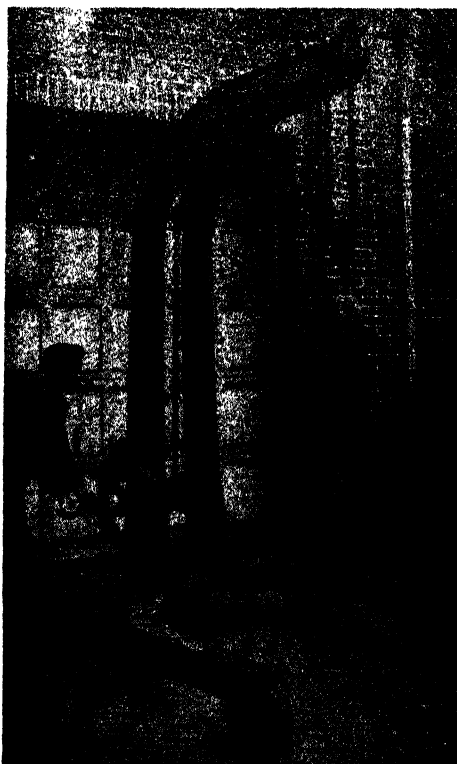

FIG. 137. PORTABLE CRANE.
1. The portable shop crane, Fig. 137 has a crank handle 11" long and a steel drum 4" in diameter. The drum gear has 68 teeth and the pinion gear has 14 teeth.